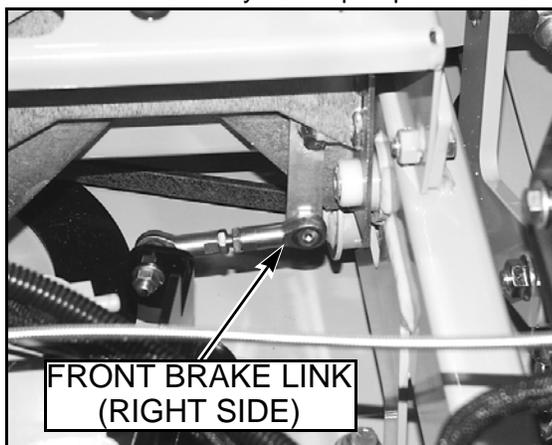

FIG. 24
**NOTE:** The front brake link is not adjustable. FIG. 24